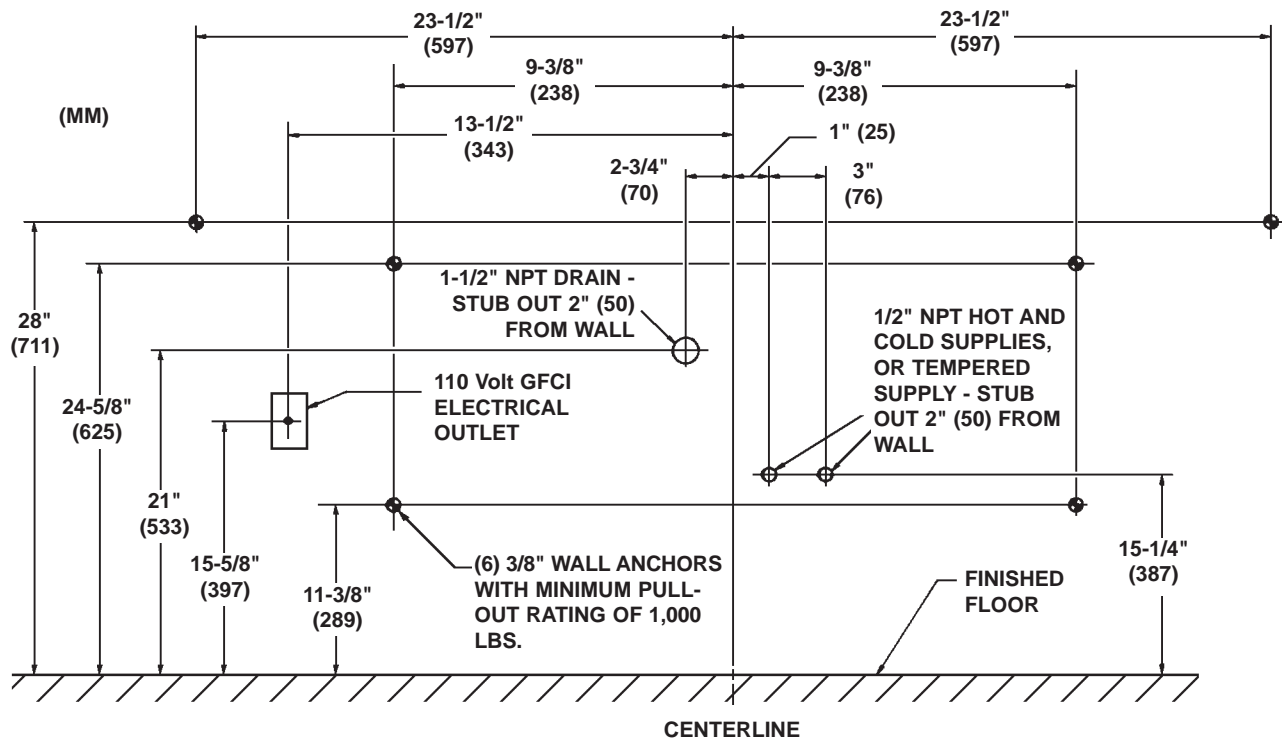

Figure 1b
*NOTE: See Figure 1a below (for Standard Height) and Figure 1b on page 6 (for Juvenile Height) when roughing in the Express®.*